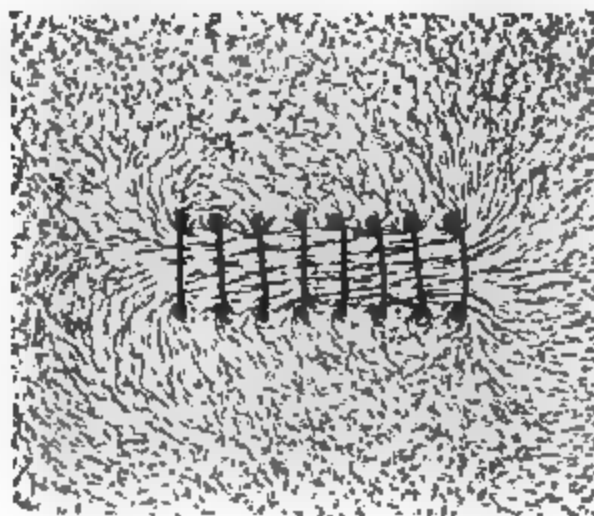

FIG. 234. — Magnetic flux around a coil.
(1) We may thread a loose coil of copper wire through a board or sheet of celluloid in such a way that when iron filings are evenly scattered over the smooth surface of the board, while a strong current is sent through the wire, they will indicate the lines of magnetic force (Fig. 234). By tapping the board gently and using a small compass, we can see the general direction of the lines of magnetic flux. It will be noticed that